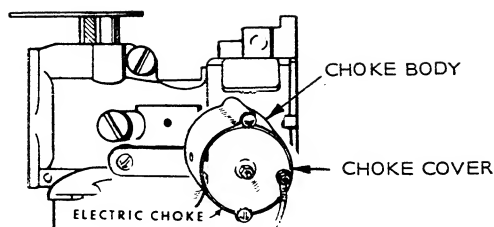

FIGURE 17. AUTOMATIC ELECTRIC CHOKE
5. Mark the electric choke setting on the choke cover and on the choke body. Then loosen the two screws and readjust to a fully open position. Operate the choke manually while the battery is disconnected (Figure 17).